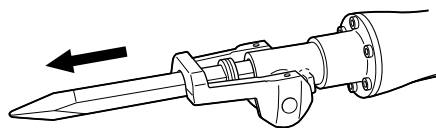

Fig. 4
- (3) Clamp the accessory into place by bringing the retainer to the clamp position. To make sure that the accessory is properly mounted, pull on the accessory (Fig. 4).